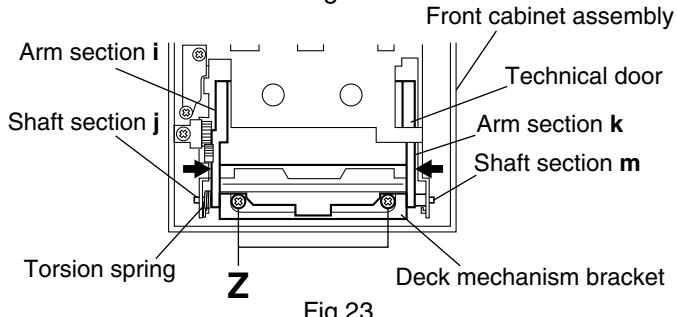

Fig.23
2. From the back side of the front cabinet assembly, remove the two screws **Z** retaining the deck mechanism bracket. (See Fig.23.)
3. While pushing the arm section **i** of the technical door in the direction of the arrow, remove the shaft section **j** of the technical door from the front cabinet assembly. (See Fig.23.)
4. While pushing the technical door arm section **k** in the direction of the arrow, remove the shaft section **m** of the technical door from the front cabinet assembly. (See Fig.23.)